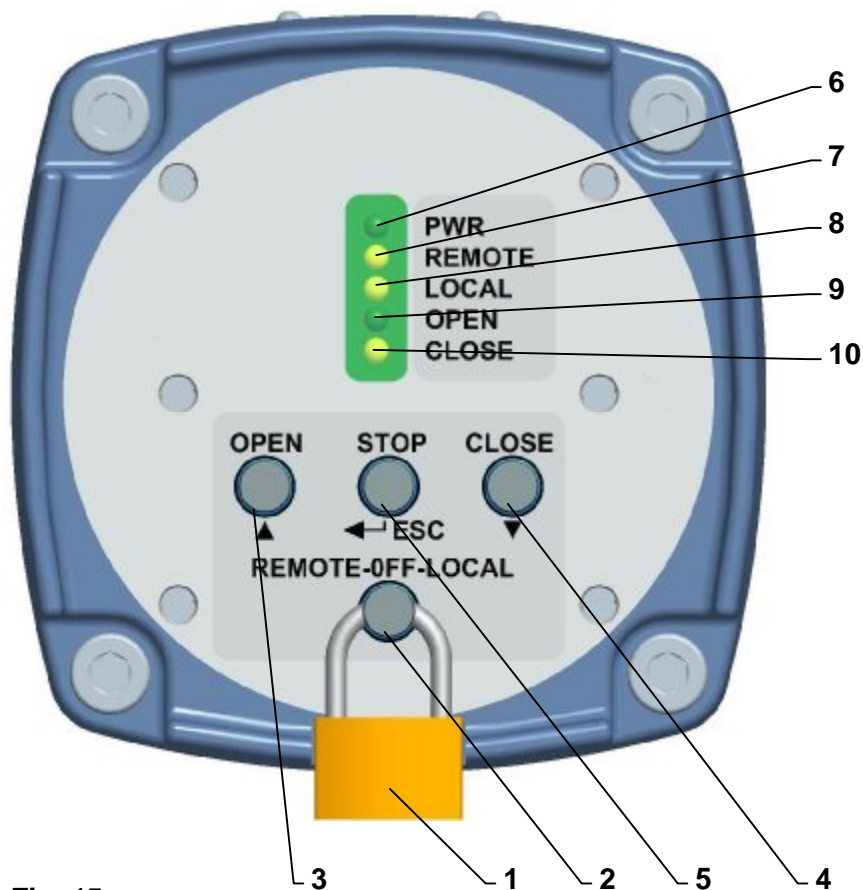

Fig. 15
4.9 Local electric control (Fig.15)